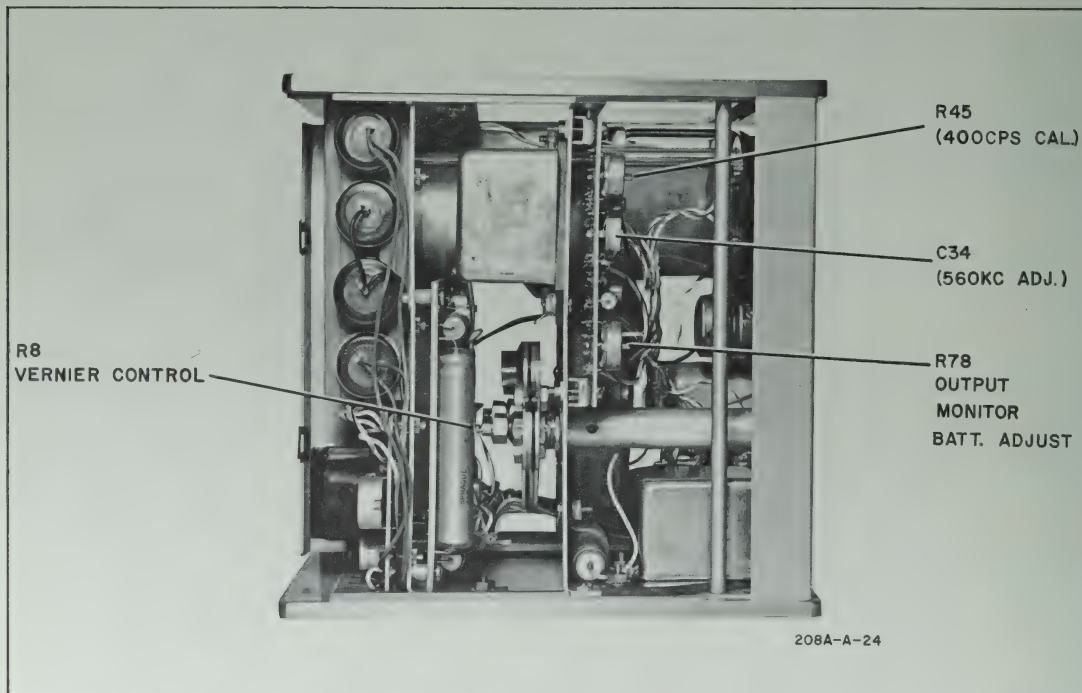

Figure 5-10. Top View
e. Adjust R45 (400 cps CAL) until the monitor meter on the Model 208A reads exactly full scale (1.0). Refer to Figure 5-10.
h. Adjust C34 (560 Kc CAL) control until the monitor meter on the Model 208A reads exactly full scale (1.0). Refer to Figure 5-10.
e. Adjust R45 (400 cps CAL) until the monitor meter on the Model 208A-DB reads exactly +10 dbm. Refer to Figure 5-10.
h. Adjust C34 (560 Kc CAL) control until the monitor meter on the Model 208A-DB indicates +10 db. Refer to Figure 5-10.